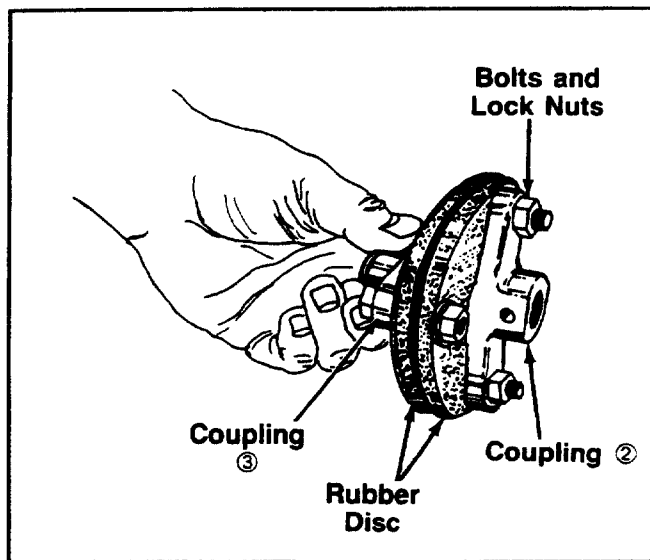

FIGURE 7.
9. Remove coupling ②, by removing two bolts and lock nuts. See figure 7.